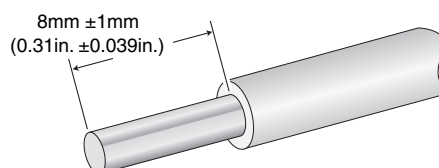

Figure 21. Stripped Wire
- With a 14-gauge wire-stripping tool, strip the three wires in the tray cable coming from the DC input power source to 8 millimeters  $\pm$  1 millimeter (0.31 inches  $\pm$  0.039 inches), as shown in Figure 21.